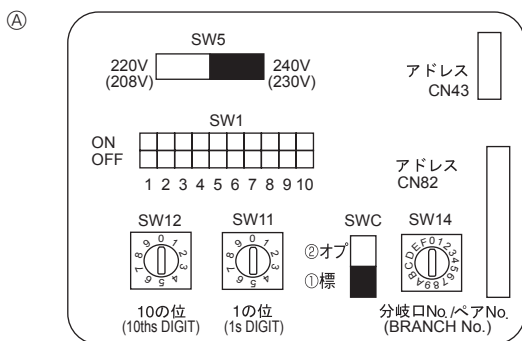

Fig. 5-4
5.5. Setting addresses (Fig. 5-4)
5.6. Sensing room temperature with the built-in sensor in a remote controller (Fig. 5-4)